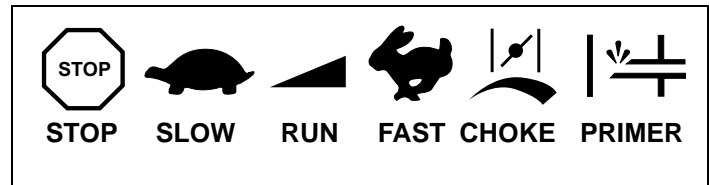

Figure 21. Typical Engine Symbols
5. Move engine speed control to "FAST" position. See Figures 21 and 22.
If restarting a warm engine after a short shutdown, move engine speed control to "FAST" position and move choke control to "NO CHOKE" position. See Figures 21, 22 and 24. Afterward, continue reading instructions below.
10. Move engine speed control to desired speed in "RUN" range. See Figures 21 and 22.